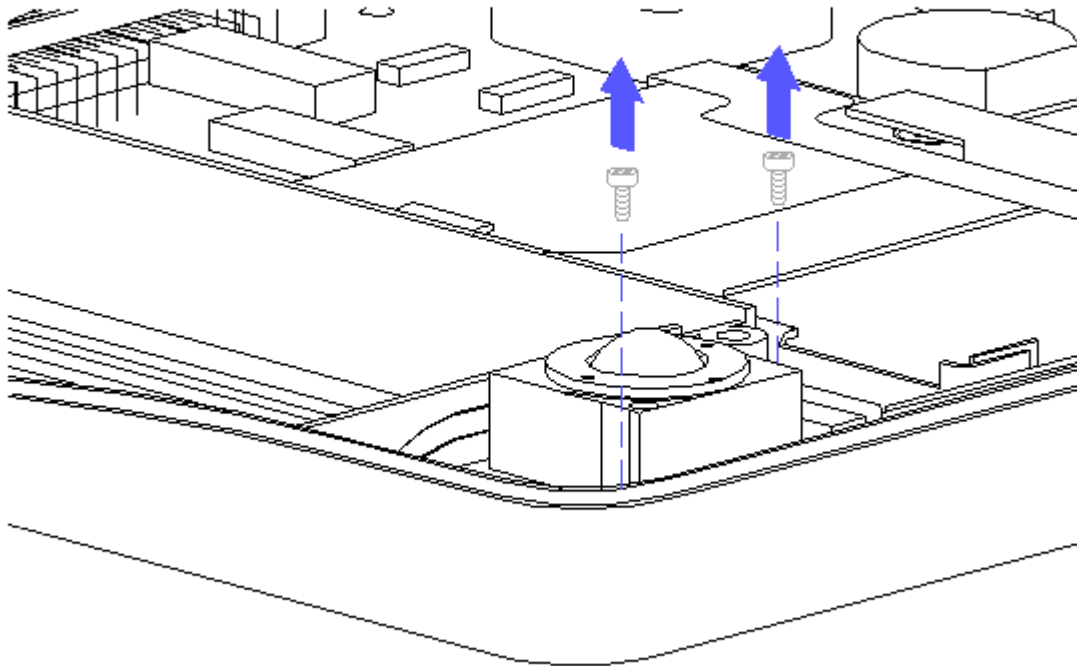

Figure 3-37. Removing Screws from the Trackball
5. Using a small screwdriver, remove the two screws that secure the trackball to the base (Figure 3-37).